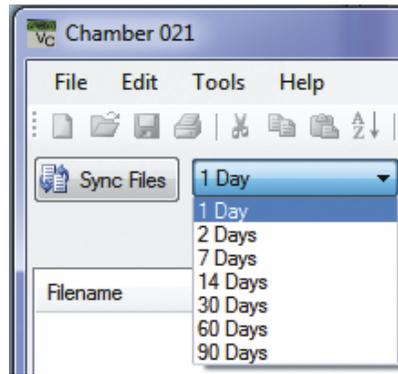

Figure 4-39 Select Sync Duration
1. From the **Sync Files** dropdown menu, select the number of days to sync data from the chamber to Central Management (Figure 4-39).